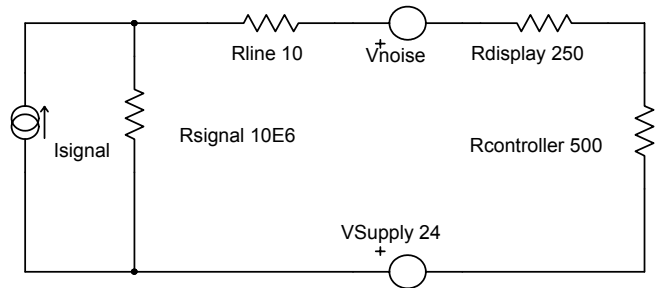

Figure 2
A simplified current loop is schematically shown in Figure 2. An ideal Norton current source composed of I_{signal} , and R_{signal} models the 4-20 mA transmitter. The line resistance is shown as R_{line} , and V_{noise} represents random induced loop noise. In this example, a 500-ohm controller and a 250-ohm digital display are connected in series with the signal current. The loop is powered by a 24 volt dc supply.
- Multiple loads can be series connected in a transmitter loop, providing considerable control and display opportunities. Loads today typically have full scale input requirements of 1 volt, 5 volts, and 10 volts. Typical 4-20mA transmitters require a voltage across their output terminals to maintain the device within its operational specifications. This voltage is often referred to as “compliance voltage” and has a rather wide range. For example, in Figure 2 the loop voltage (compliance) available for the transmitter is; $(V_{supply} - \text{all load FS voltages} - \text{line IR drops})$; specifically, $(24 \text{ volts} - 15 \text{ volts} - 2 \text{ mV})$. Depending on transmitter specifications, a larger supply voltage may be required or perhaps a 5 volt (250Ω) controller.